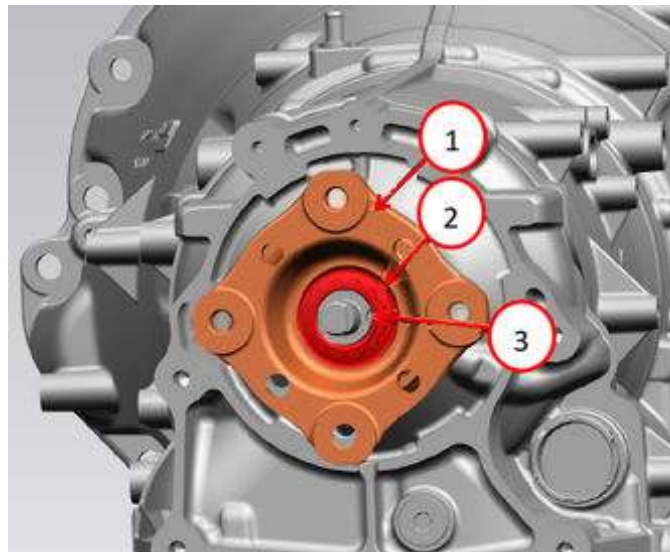

Fig. 55
79. For **2WD vehicles**, install the output shaft flange Fig. 55 using a **NEW** output flange nut and washer. Use a 34 mm, 12 point socket end to hold the flange during installation.